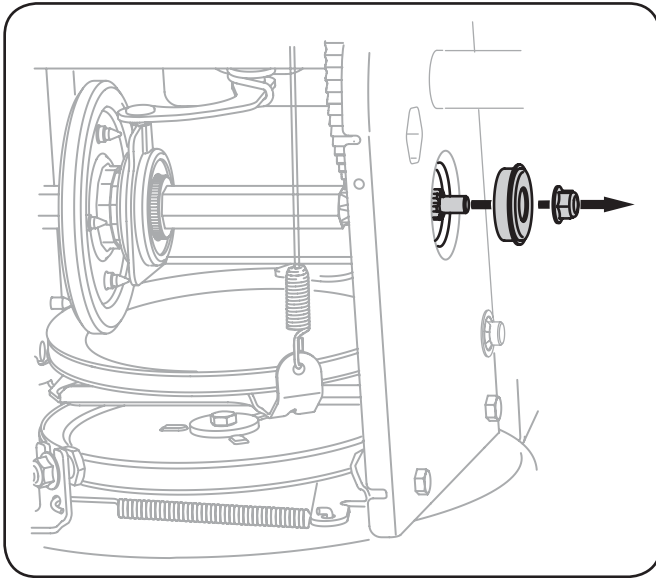

Figure 7-9
- Carefully remove the hex nut which secures the hex shaft to the snow thrower frame and lightly tap the shaft's end to dislodge the ball bearing from the right side of the frame. See Fig. 7-9.